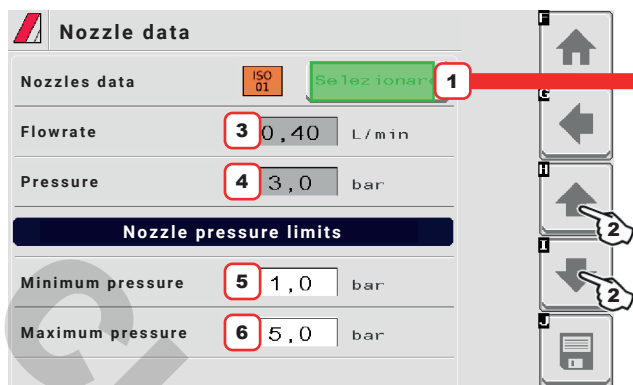
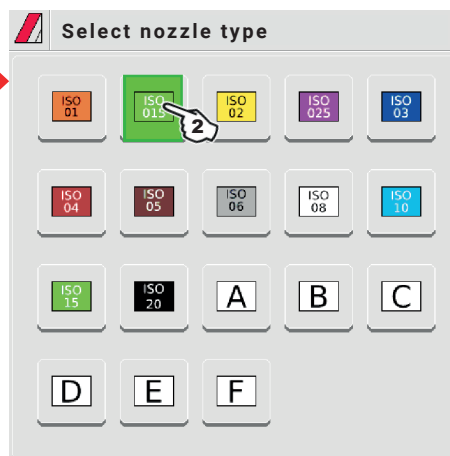

Fig. 11
Fig. 12
- 1 - 2 Select the nozzle to be set (Fig. 11 / Fig. 12); enter the characteristics (Fig. 11).